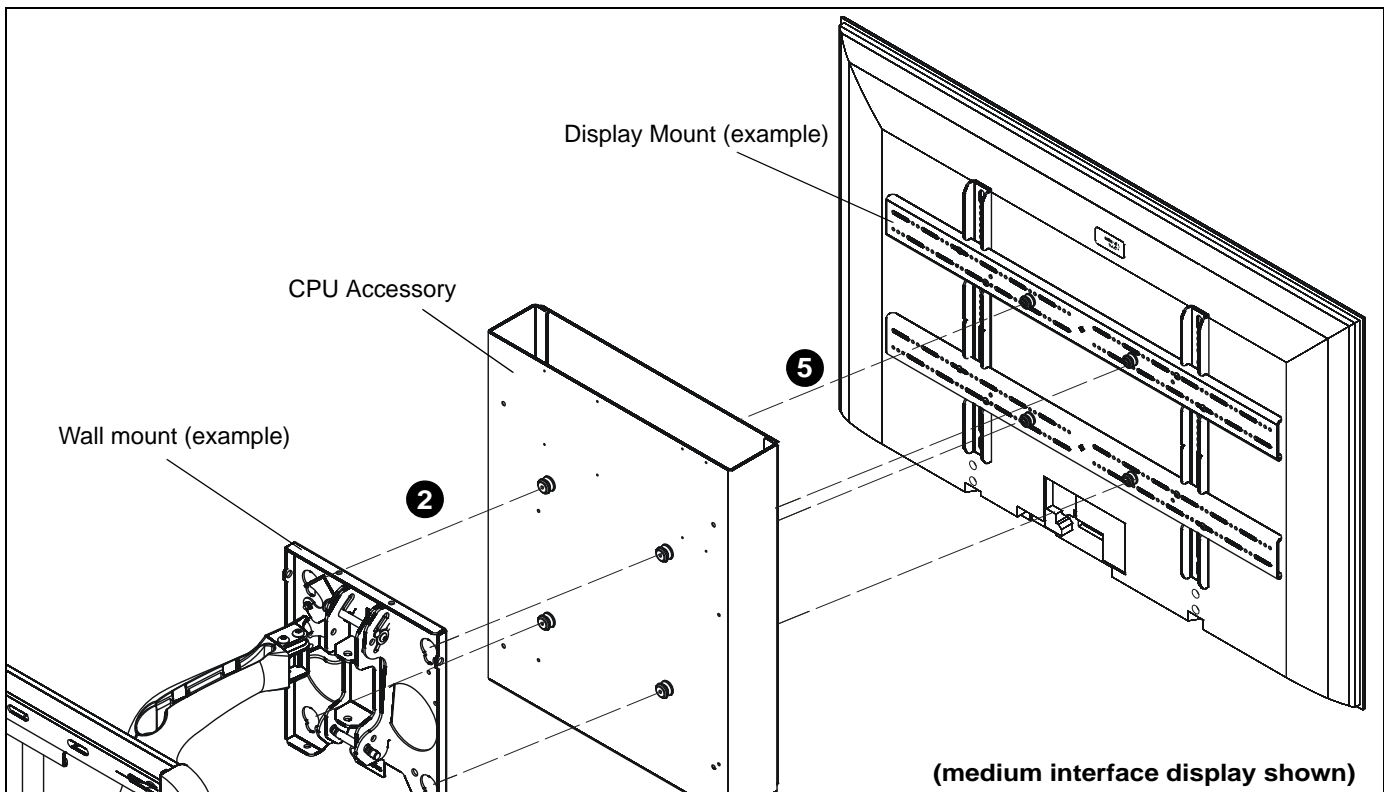

Figure 5
2. Lift CPU accessory onto wall mount and place mounting buttons inside mounting holes. (See Figure 5)
5. Lift display with display mount to CPU accessory and insert mounting buttons into mounting holes. (See Figures 5 and 6)